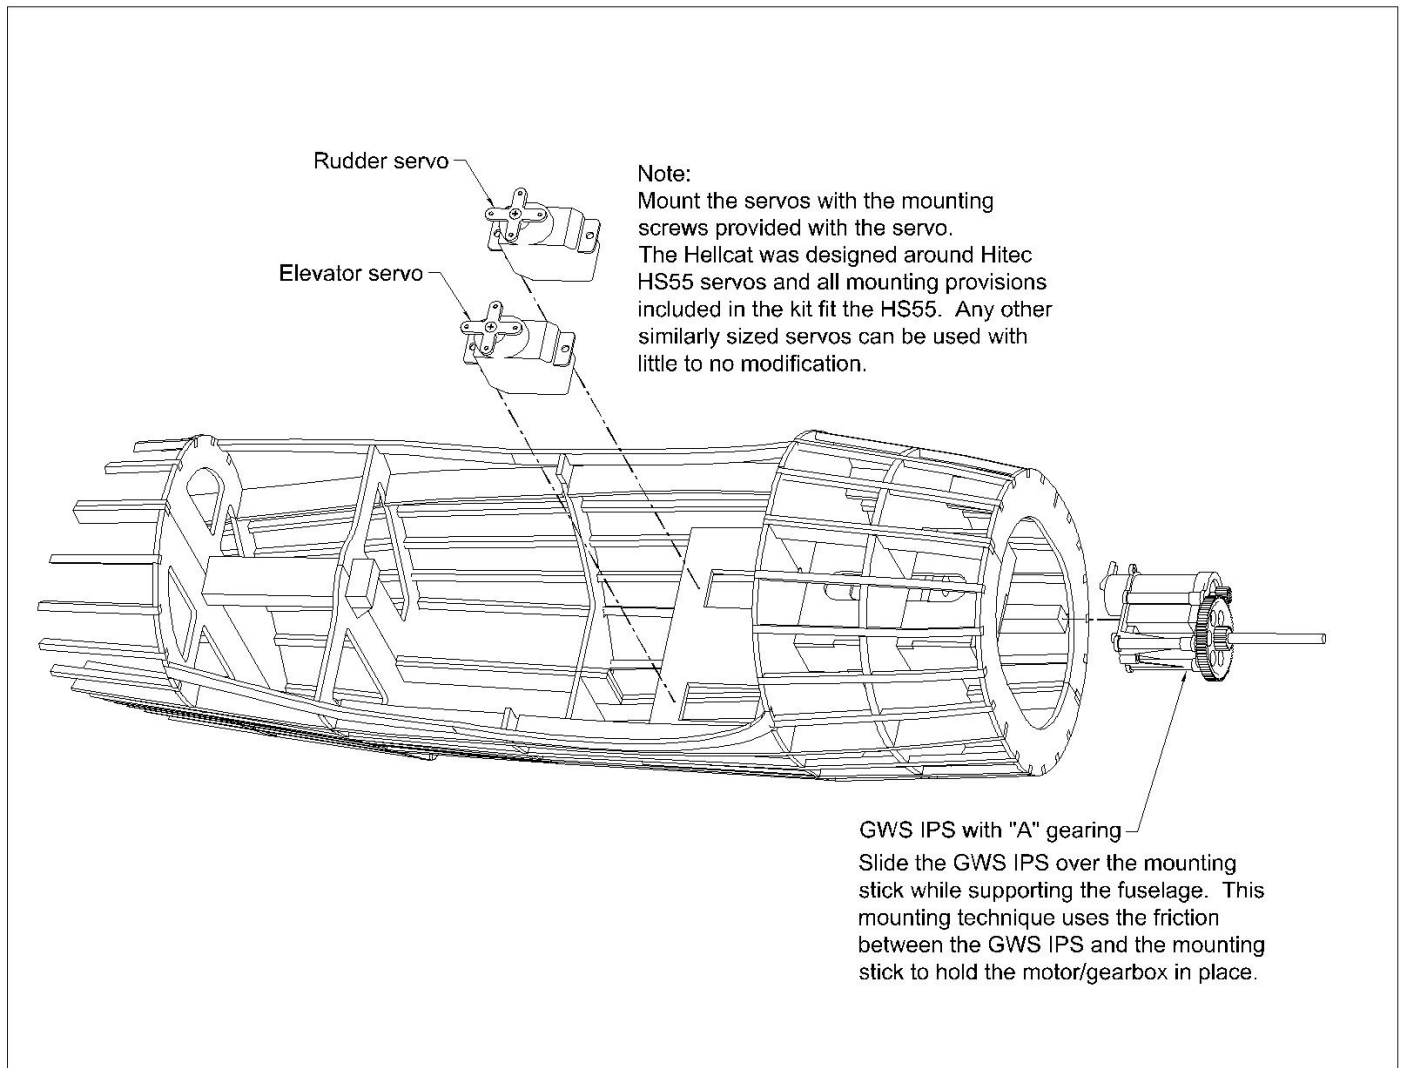

Figure 4
- ❑ Install the elevator and rudder servos and motor as shown/described in Figure 4.